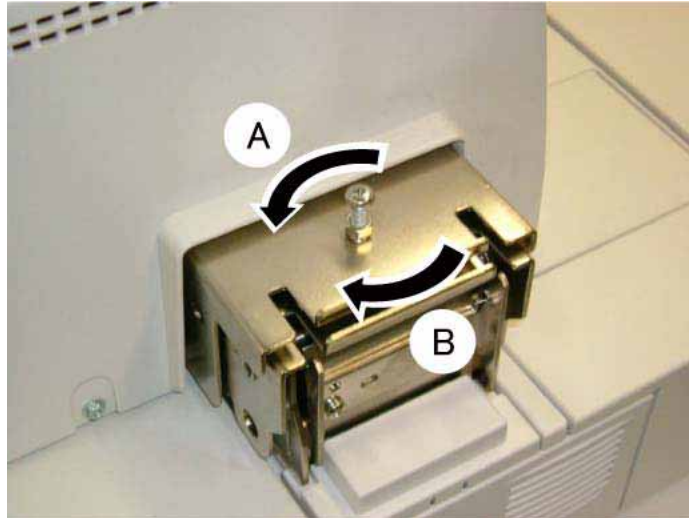

Figure 2 DADF Platen Guide bearing height adjustment
1. To adjust the DADF Platen Guide bearings so that they are equally touching the CVT Platen Glass, and are parallel to the glass (which directly affects skew), loosen the nut of the Left Counter Balance and turn the screw in the directions shown in the figure. Figure 2